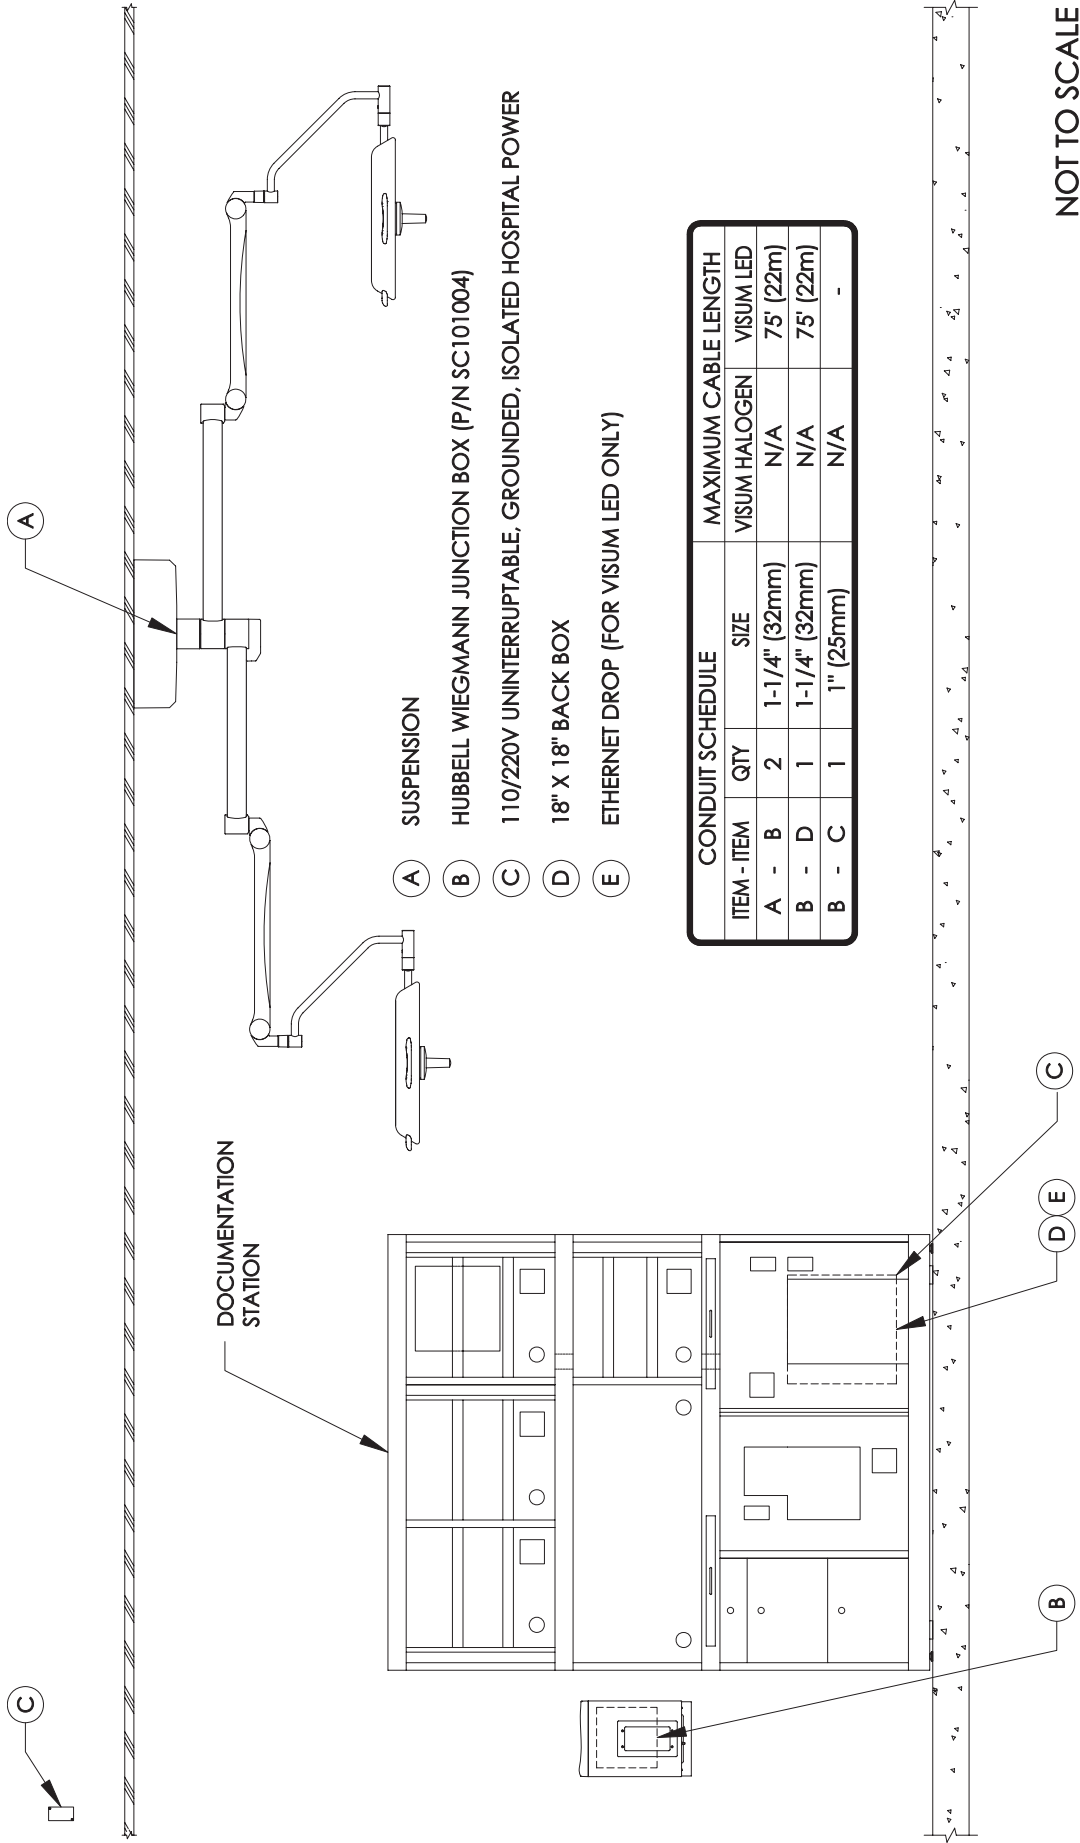

Figure 11: Electrical Installation with Wall-Mounted Power Supply Box & Documentation Station
5. Install the conduits as specified in Figure 11.
Note All components must be located so that conduits do not exceed the maximum lengths specified in Figure 11.